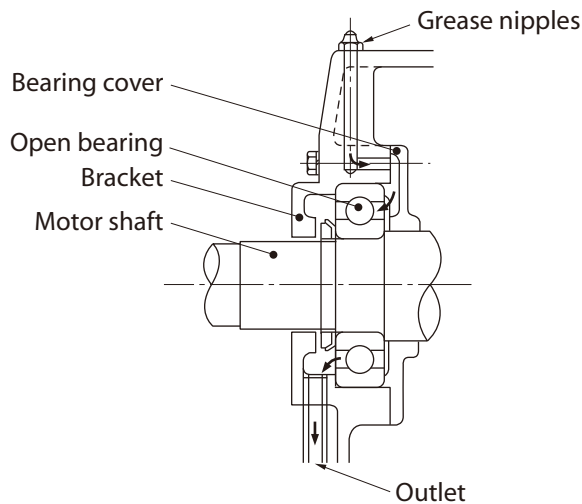

Fig.35 Construction of open bearing
(3) Grease maintenance procedure (refer to Fig.35 and Fig.41 on page 33)